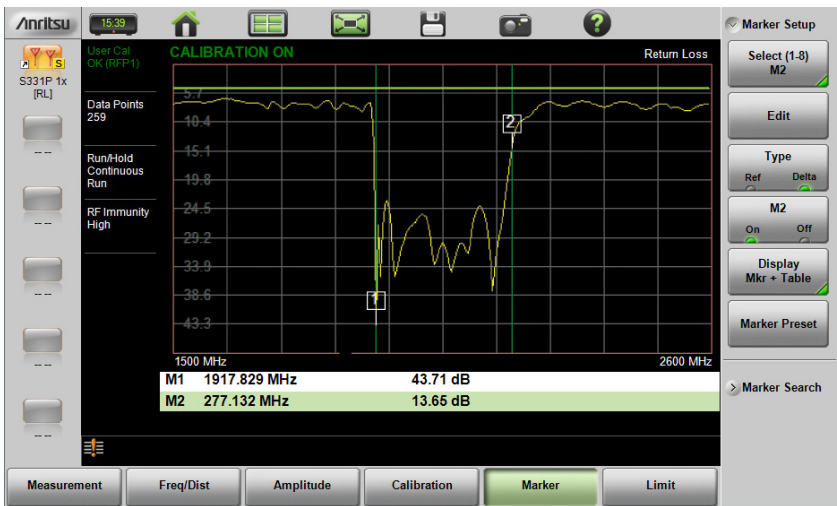

Figure 3-31. Delta Marker 2 and Marker Table
4. Markers 2 through 8 can be set as deltas to a reference marker. Use the **Type** key to set the marker type as **Reference** or **Delta** marker. Figure 3-31 on page 3-41 illustrates using a delta marker to estimate the passband of a filter.